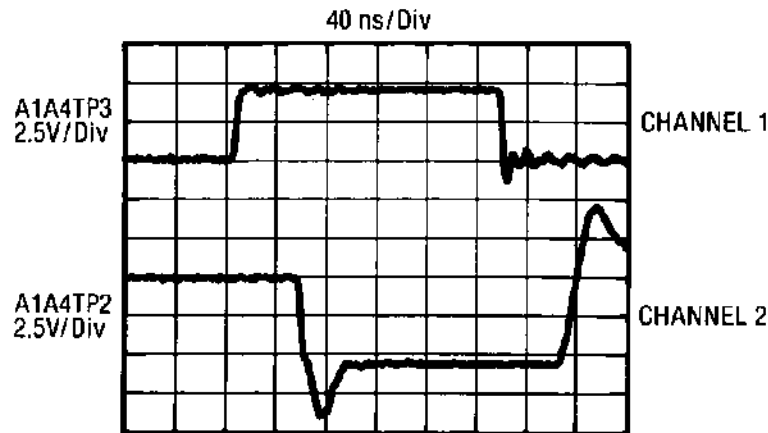

Figure 8-46. Pulse Driver Board Input and Shunt Pulses
14. Connect channel 1 of the oscilloscope to A1A4TP3 and Channel 2 to A1A4TP2. Set Channel 1 display at top of screen. Set oscilloscope controls as shown in Figure 8-46 and compare the display to the figure.